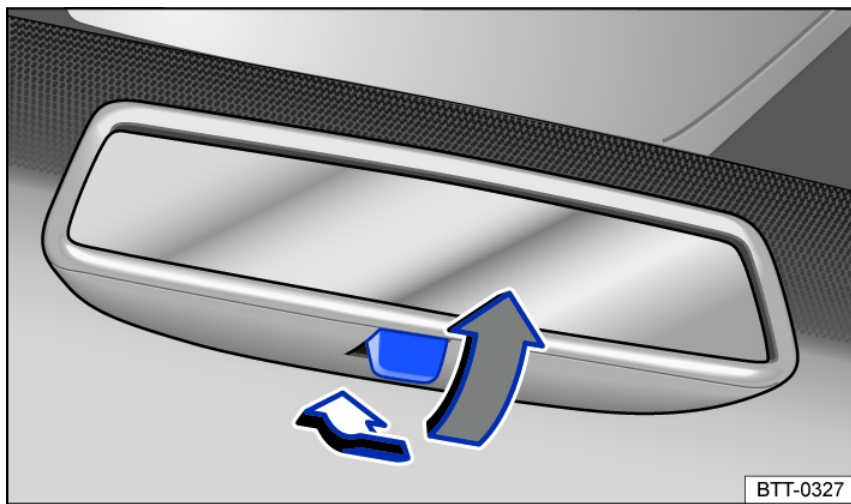

Fig. 85 On the windshield: manual dimming interior rearview mirror.
- To dim, pull the lever back fig. 85.